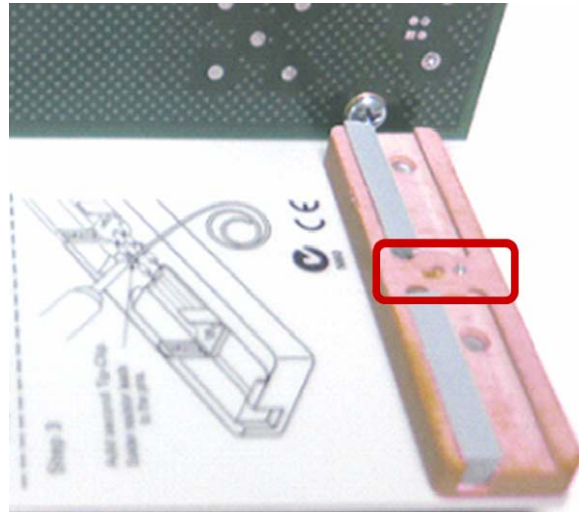

Figure 3: Location of the Solder Pins
3. Locate the solder box on the Deskew Fixture. Ensure that the solder pins are in the middle of the solder box as shown in the box in Figure 3